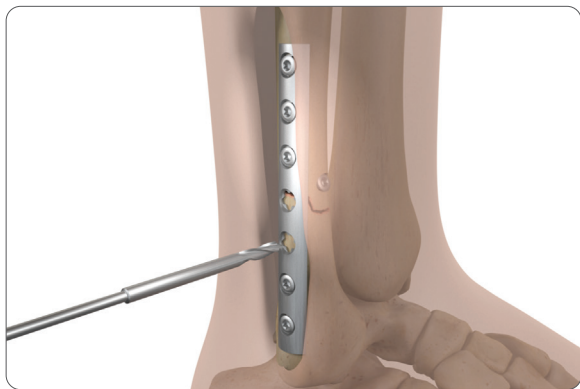

Figure 2. Hole drilled using 3.5mm drill-tip passing pin
1. Approximately 3 – 4cm above the joint line, use a power drill to advance the 3.5mm drill-tip passing pin through a point slightly posterior to the midpoint of the fibula in the AP plane, aiming for the center of the tibia (approximately 30° anterior to the coronal plane) (**Figure 2**). Advance the drill until the skin is tented on the medial side of the tibia. Take care to avoid damage to neurovascular structures when passing the drill-tip passing pin.
2. Advance the passing pin through the hole that is approximately 4cm above the joint line in the Smith+Nephew fracture plate. Ensure that the plate location allows for syndesmotic repair (**Figure 2**).